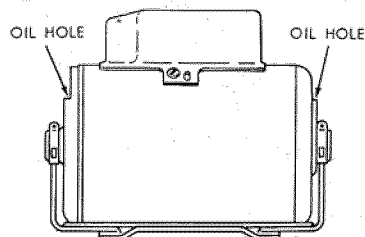

Figure 7
2. Re-lubricate motor bearings occasionally at the oil hole located near the top of the hub on each end shield. (See figure 7.) Be sure to wipe off dirt or grit if present around oil holes to prevent any possibility of foreign material contaminating the oil wicks that supply the bearings with oil. Use a good grade of medium weight mineral oil, such as automobile engine oil SAE 20.